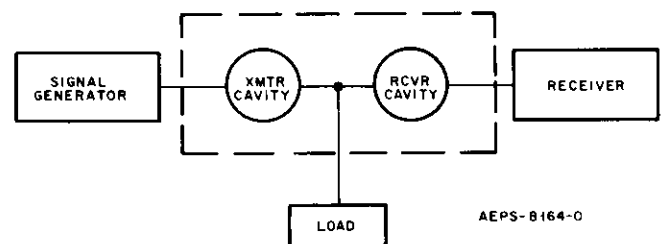

Figure 9. Method 2 Transmitter Branch Reject Test Set-Up
Step 8. Connect the equipment as shown in Figure 9.
Step 6. Connect the equipment as shown in Figure 9.